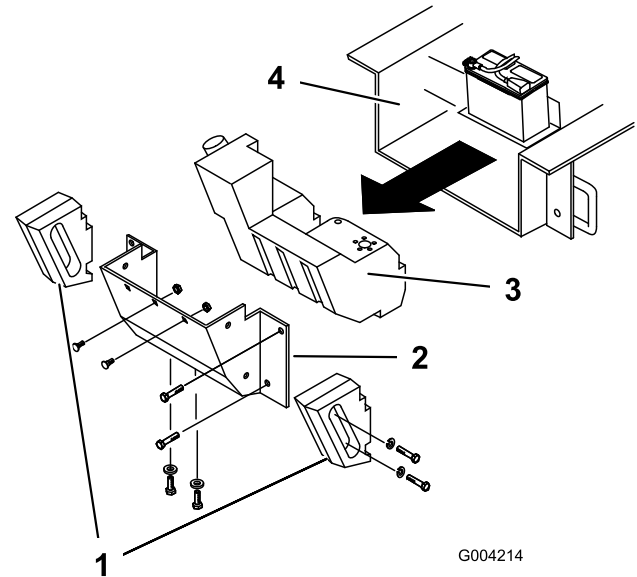

Figure 57
Over time, the chassis under the engine collects dirt and debris that must be removed. Using a flashlight, open the hood and inspect the area under the engine on a regular basis. When the debris is 1 to 2 inches deep, complete the following procedure (refer to Figure 57 throughout this procedure):
4. Remove the bolts, washers, and lock washers securing the two side weights, removing the weights (Figure 57).
7. Remove the six nuts and bolts securing the rear panel, removing the panel (Figure 57).
9. Slide the fuel tank to the rear (Figure 57).
16. Slide the fuel tank part way into the chassis (Figure 57).
22. Replace the rear panel and secure it with the six bolts and nuts removed previously (Figure 57).
24. Install the side weights with the bolts, washers, and lock washers removed previously (Figure 57).